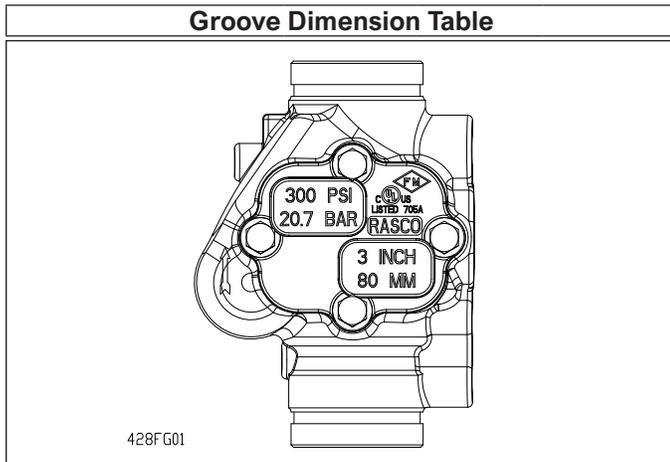

Fig. 1
- b. Model E valve with US Standard Flanged Inlet and Grooved Outlet (Fig. 1)